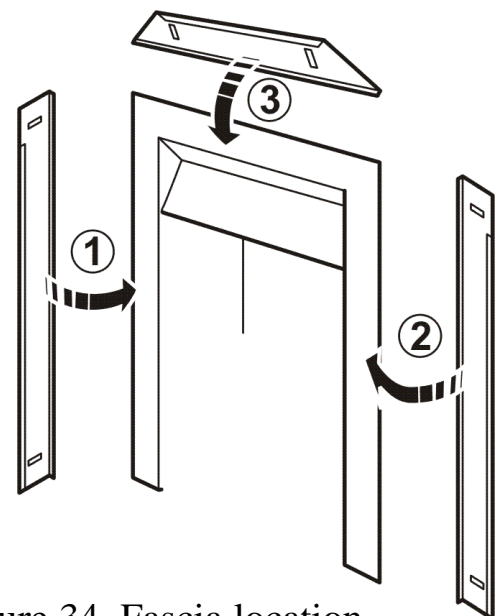

Figure 34. Fascia location
3. Locate the side fascia trims as in figure 34.
4. Locate the top fascia trim as in figure 34.